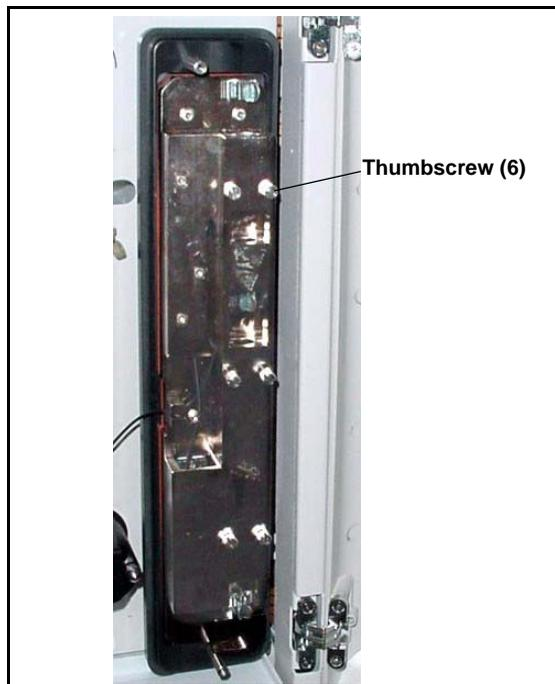

Figure 19. ICS-1000 Column Heater Cover Removed
4. Unscrew the six thumbscrews on the top metal plate (see Figure 19) and remove the plate.